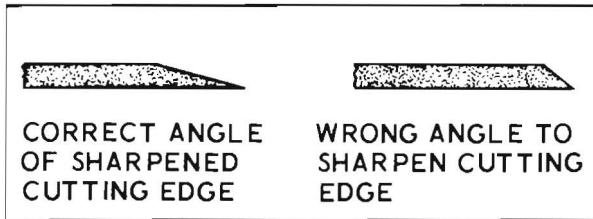

FIGURE 9
5. Sharpening Blades. See Figure 9.
With the engine shut off and after the blades have stopped spinning, check the mower blades periodically for nicks or dullness. Damaged, dull or improperly sharpened blades can cause a shattered, rather than, clean cut and brown areas of grass may develop. Refer to Figure 9 for the correct sharpening angle. Sharpened edge must be at least 2-1/2" (65 mm) long.